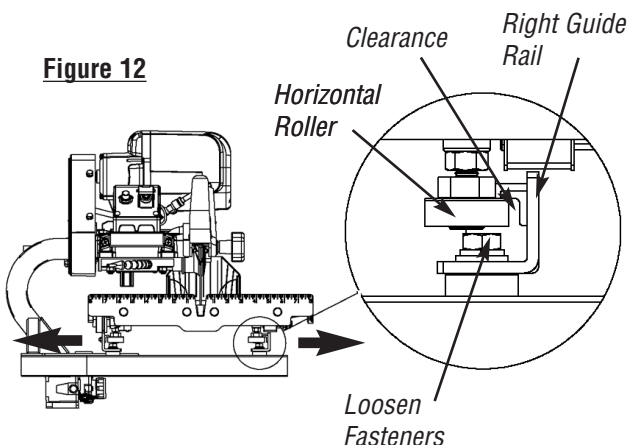

Figure 12
1. Lift the saw up from within the water tray and place it on a flat level surface. Use the universal wrench to loosen (but do not remove) the fasteners from either end of both guide rails. Move each rail away from the other, so that the horizontal rollers are clear of the right guide rail. See *Figure 12*.